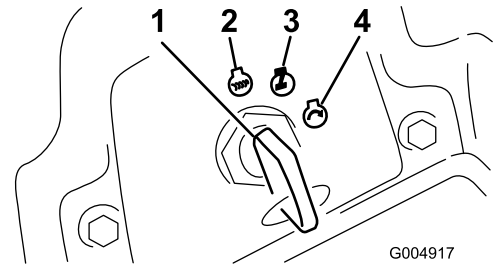

Figure 17
5. Turn the ignition key clockwise to the Run position (Figure 17).
2. Turn the ignition key to the Off position (Figure 17). Wait for all moving parts to stop before leaving the operating position.